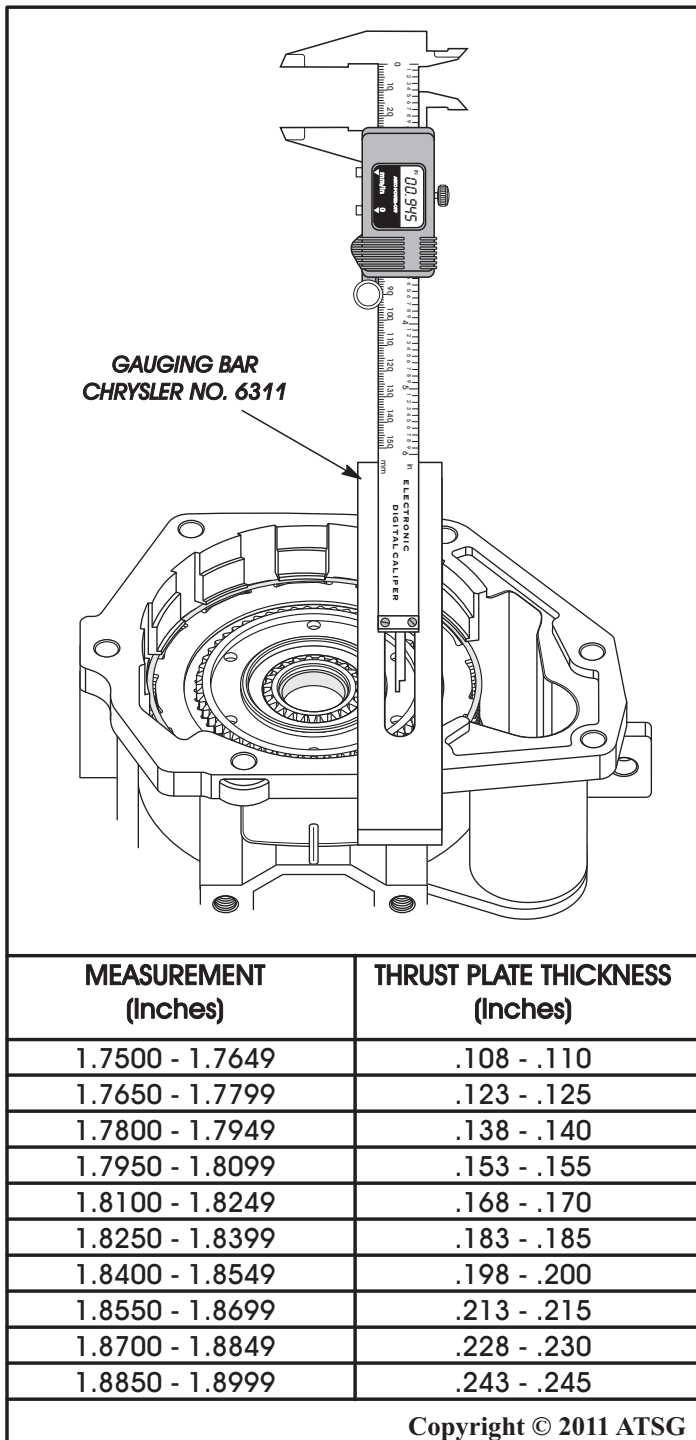

Figure 237
56. Position gauging bar across face of the overdrive housing, as shown in Figure 237.
57. Measure with caliper, the distance to clutch hub thrust bearing surface at four places 90° apart, as shown in Figure 237.
59. Select the proper number 10 thrust bearing plate based on the your measurement, from the chart in Figure 237.